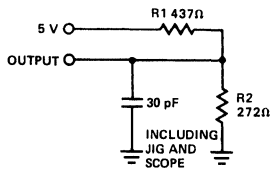

Figure 1a
- Test conditions assume signal transition time of 5 ns or less, timing reference levels of 1.5V and output loading of the specified I_{OL}/I_{OH} and 30 pF load capacitance, as in Figure 1a.